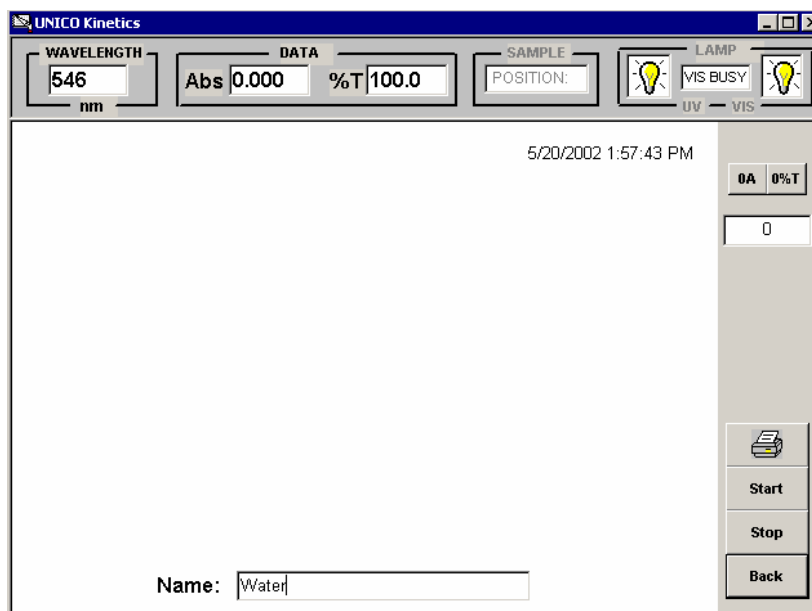

Figure-31 Three Function Buttons for **Kinetics** Test
- Step 10: Click **Start** button to begin test (You may type the name of the Kinetics test in the text field at the right of the Name label, like "Water" of this sample test, see Figure-31).